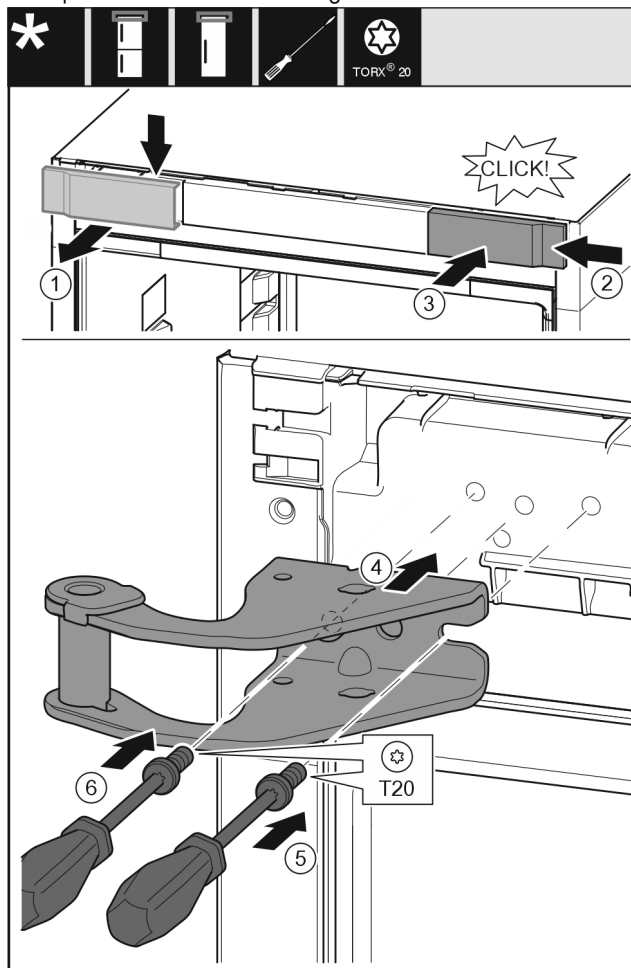

Fig. 7
- Take off the cover from above to the front. Fig. 7 (1)
- Rotate the cover 180° and clip onto the other side from the right. Fig. 7 (2)
- Latch the cover into place. Fig. 7 (3)
- Position the upper bearing bracket. Fig. 7 (4)
- Insert the screw with a T20 screwdriver and tighten it. Fig. 7 (5)
- Insert the screw with a T20 screwdriver and tighten it. Fig. 7 (6)